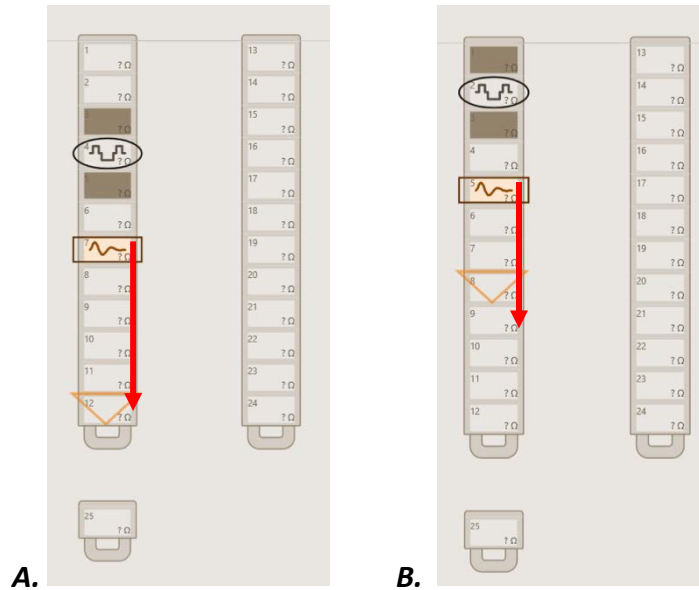

Figure 7.13 Example starting electrode positions for:
5. Set the initial measurement electrode positions (see Figure 7.13):